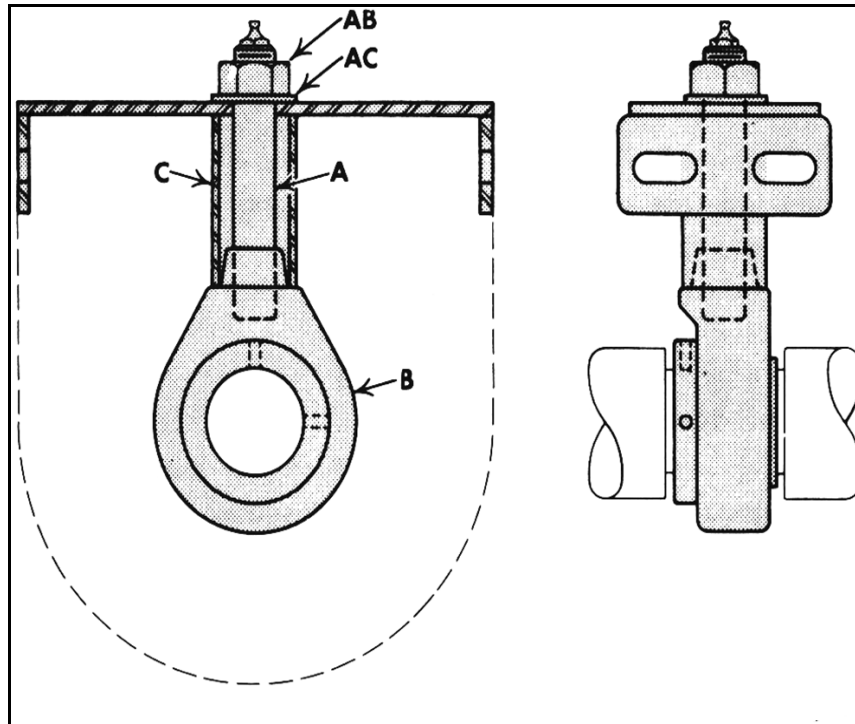

Figure 5.2 Ball Bearing Hanger Assembly
2. Loosen set screws in bearing collar and remove hanger from coupling shaft. See Figure 5.2.